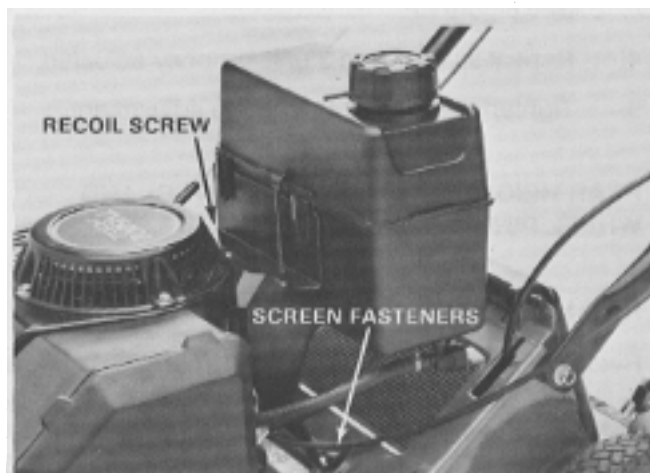

Figure 27
- Remove the two self-tapping screws securing the lower tank bracket and the screen panel to the cutter housing. See Figure 27.